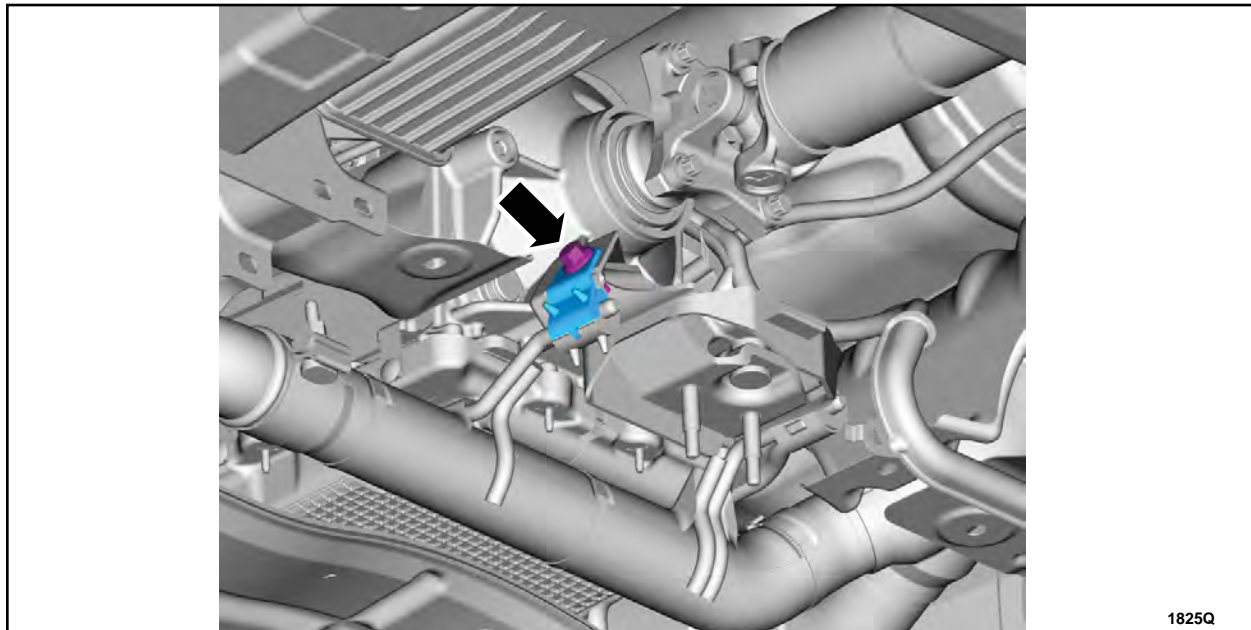

FIGURE 35
55. Install the LH isolator cap and the bolt. See Figure 35.